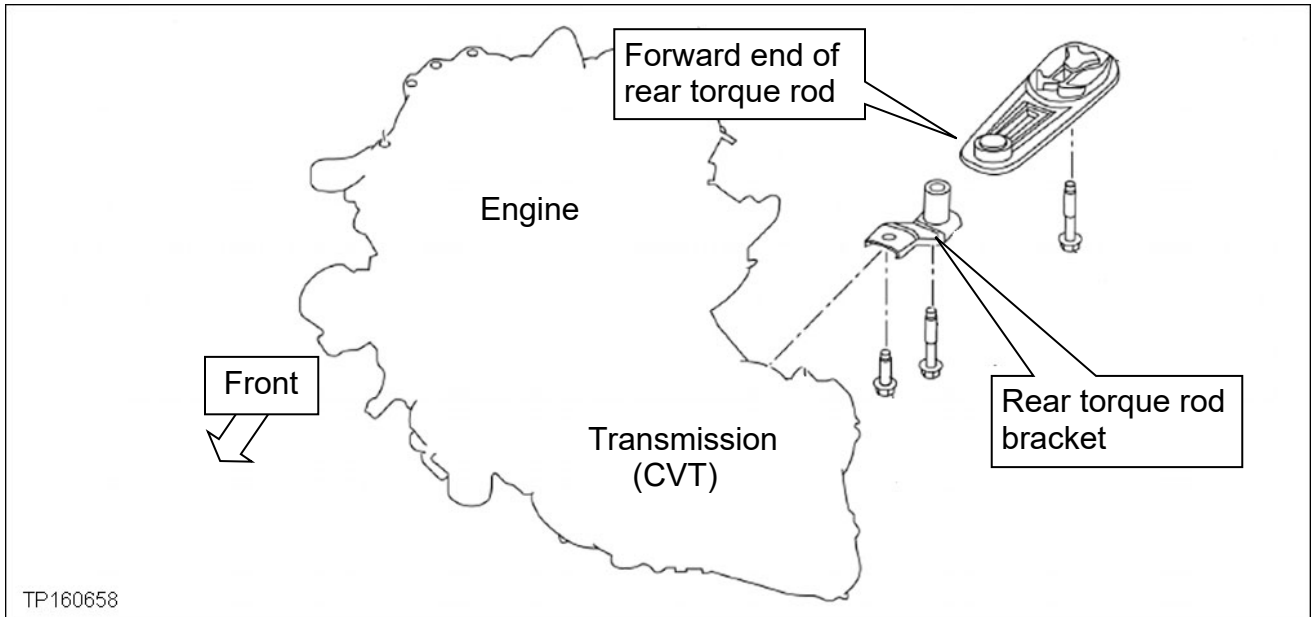

Figure 2
- Refer to Figures 2 and 3 on page 2 for the rear torque rod location on the vehicle.